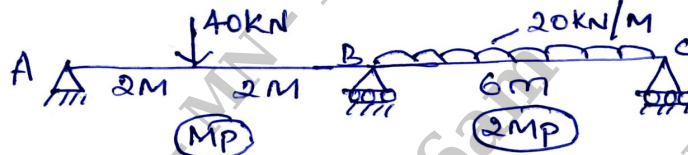

Fig.Q2(b)
b. Calculate 'M_p' for the continuous beam shown in Fig.Q2(b). Take load factor 1.5.